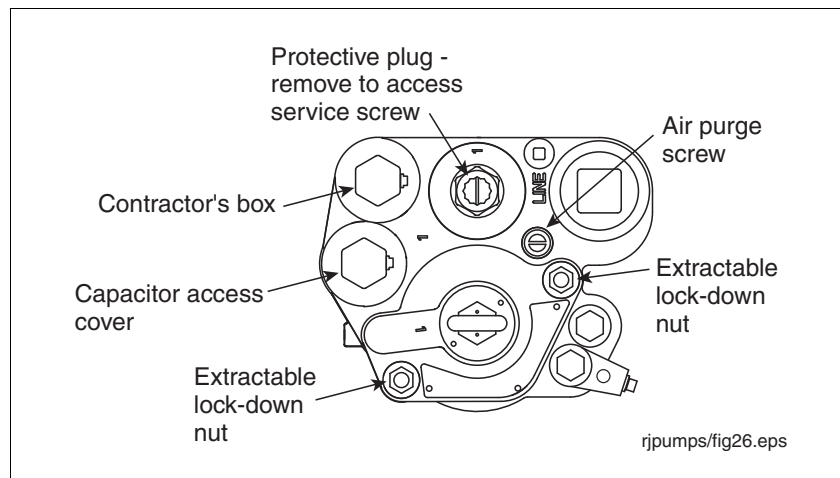

Figure 22. Extractable Lock-Down Nuts
2. Remove the two extractable lock-down nuts (see Figure 22). The springs on the lock-down studs between the extractable's flange and the manifold will push the extractable up, breaking the seals.
12. Turn the air purge screw 2 - 3 turns counterclockwise (see Figure 22).